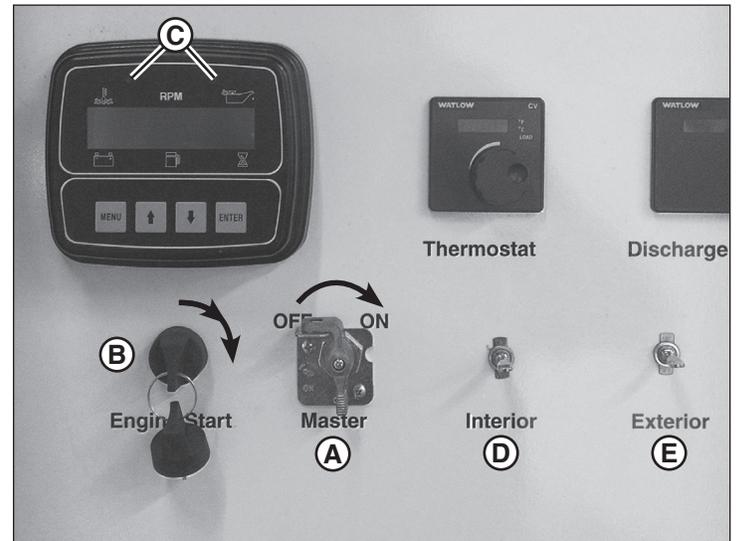

Figure 17
2. Turn the master switch (A, Figure 17) to the ON position.
3. Turn the key switch (B, Figure 17) to the RUN position. The glow plug indicator lights (C) on the engine monitor and control center will illuminate. Wait for the lights to turn off (approximately 15 seconds).